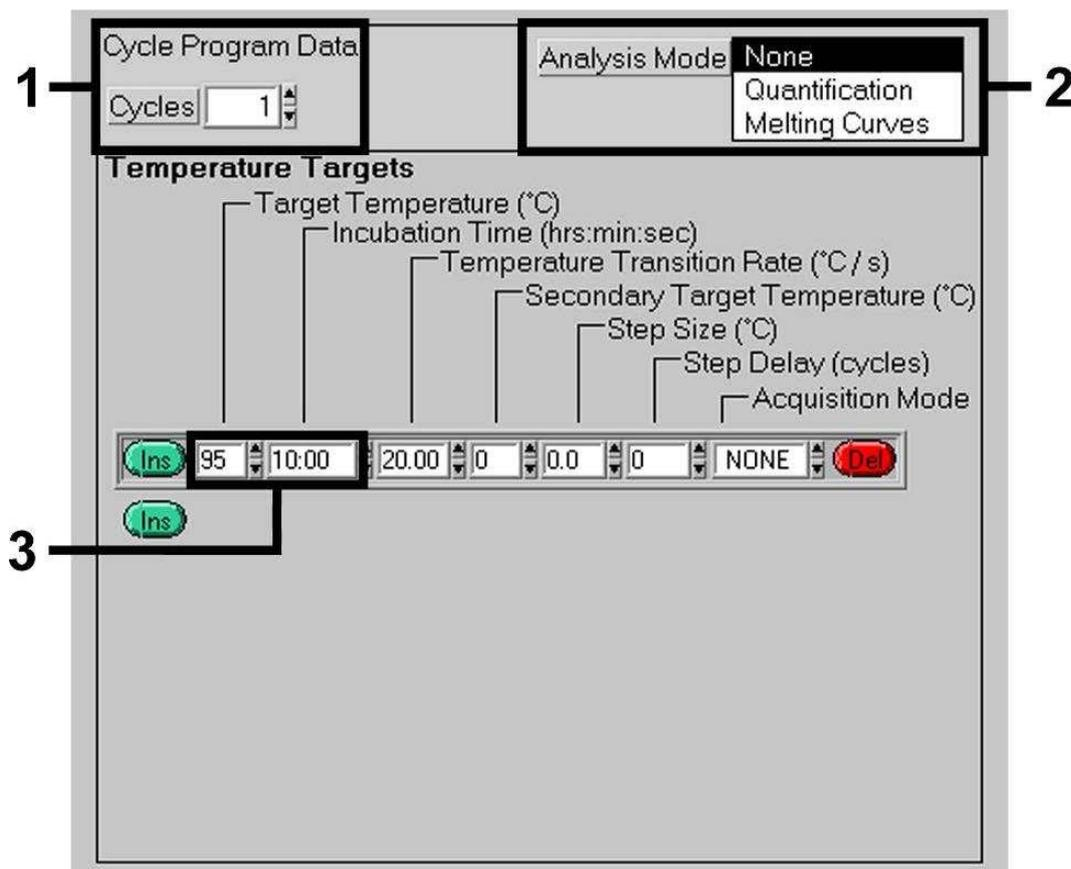

Fig. 3: Initial Activation of the Hot Start Enzyme.
For the detection of EBV DNA, create a temperature profile on your *LightCycler* Instrument according to the following five steps (see Fig. 3 – 7).
- A. Initial Activation of the Hot Start Enzyme Fig. 3